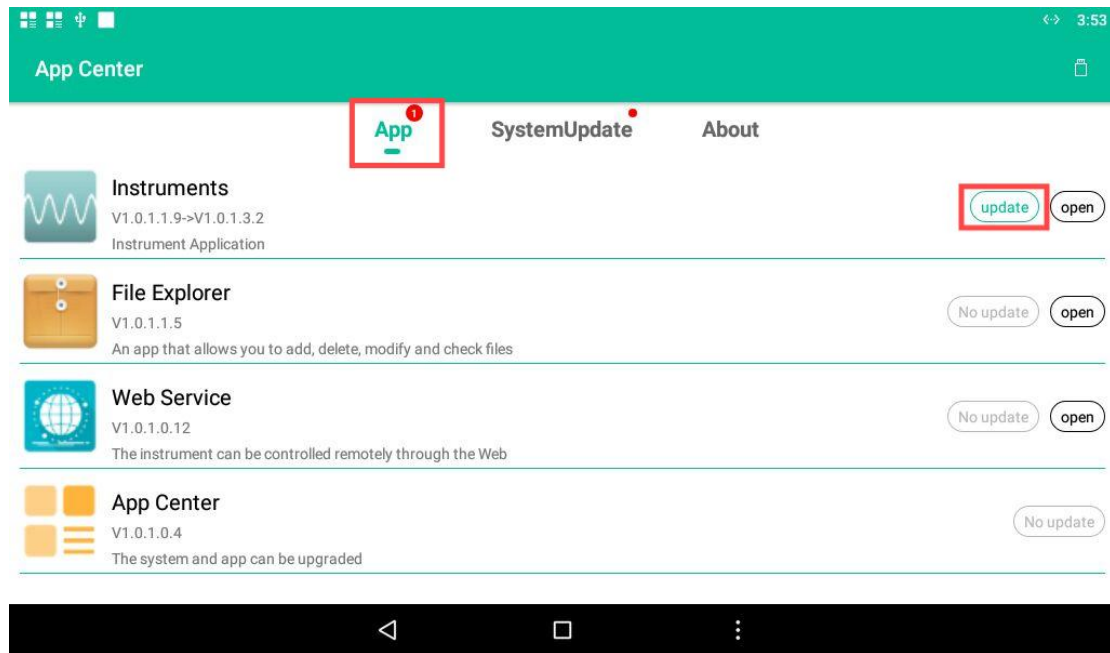

Figure 1-4
2. After inserting the USB disk, the App Center will check whether there is an App that can be upgraded on the USB disk. If there is an upgradeable App version, click **"update"** to update, as shown in Figure 1-4; if not, it will display "No update ", as shown in Figure 1-5.